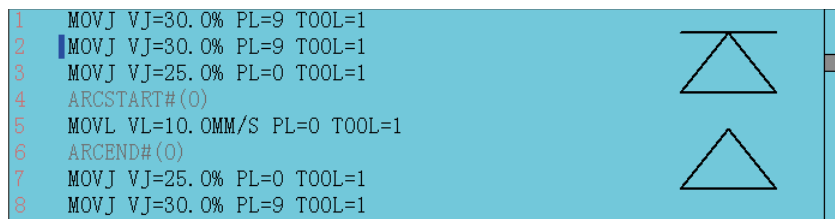

Fig.8.4
3. Click the cursor movement key in the screen to move the cursor to the program line to be tested, such as the second line, as shown in Fig. 8.4.